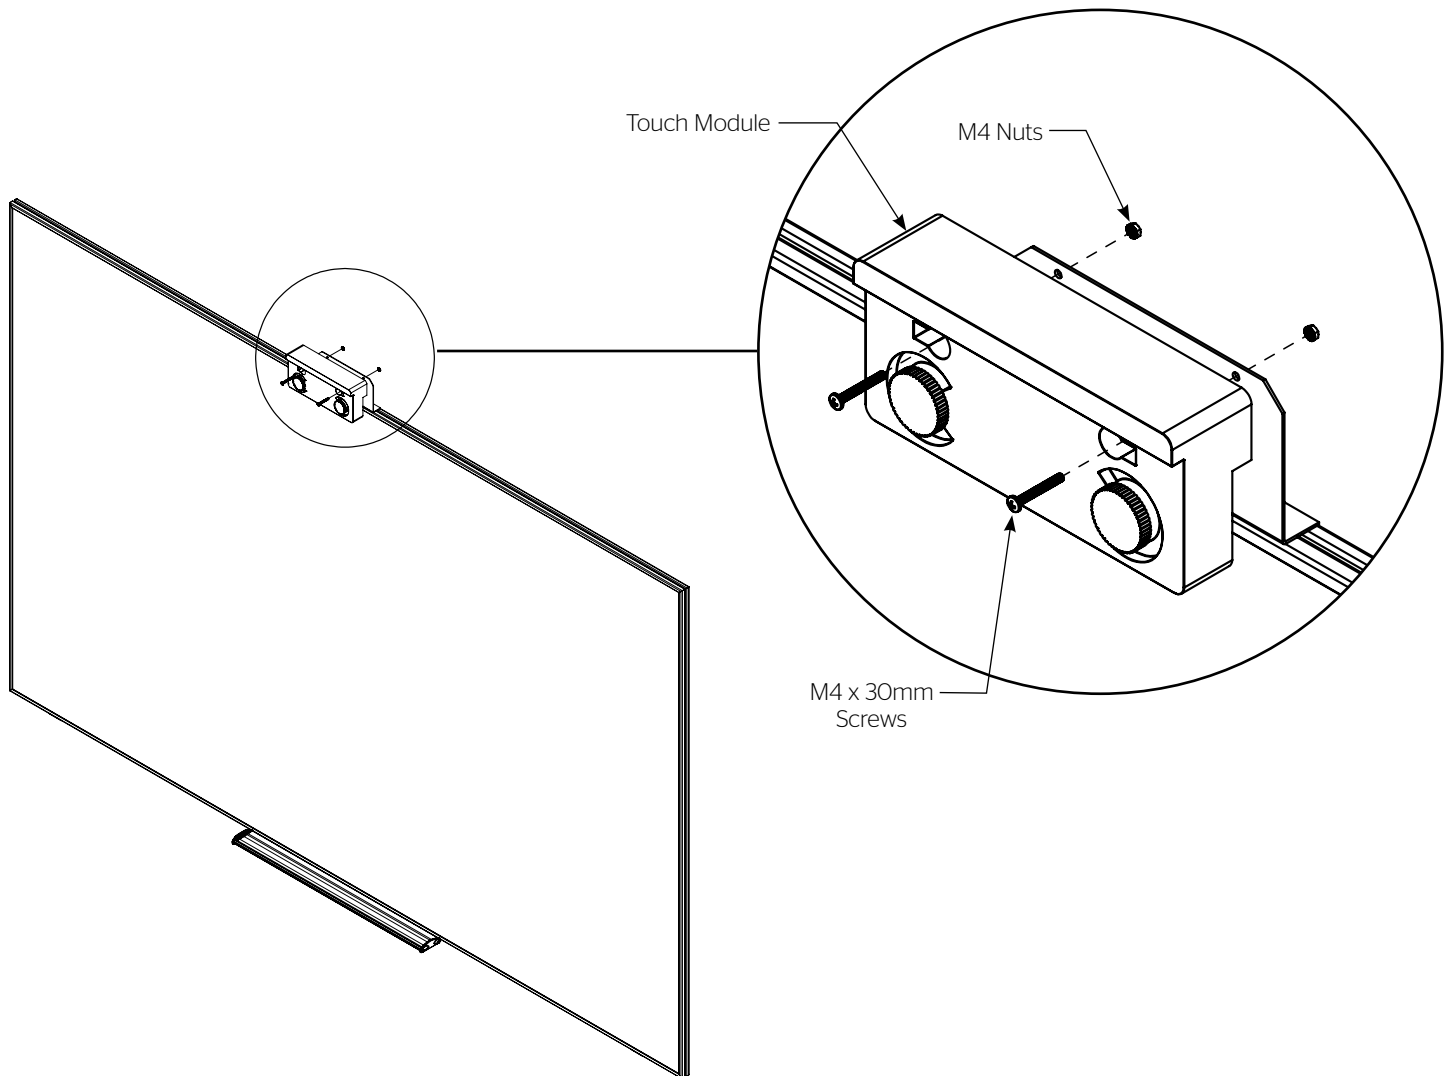

Figure 4
1. Remove the cover from the touch module provided with the interactive projector. Using the provided M4 x 30mm screws and M4 nuts, attach the touch module to the touch interactive bracket as shown (Figure 4).